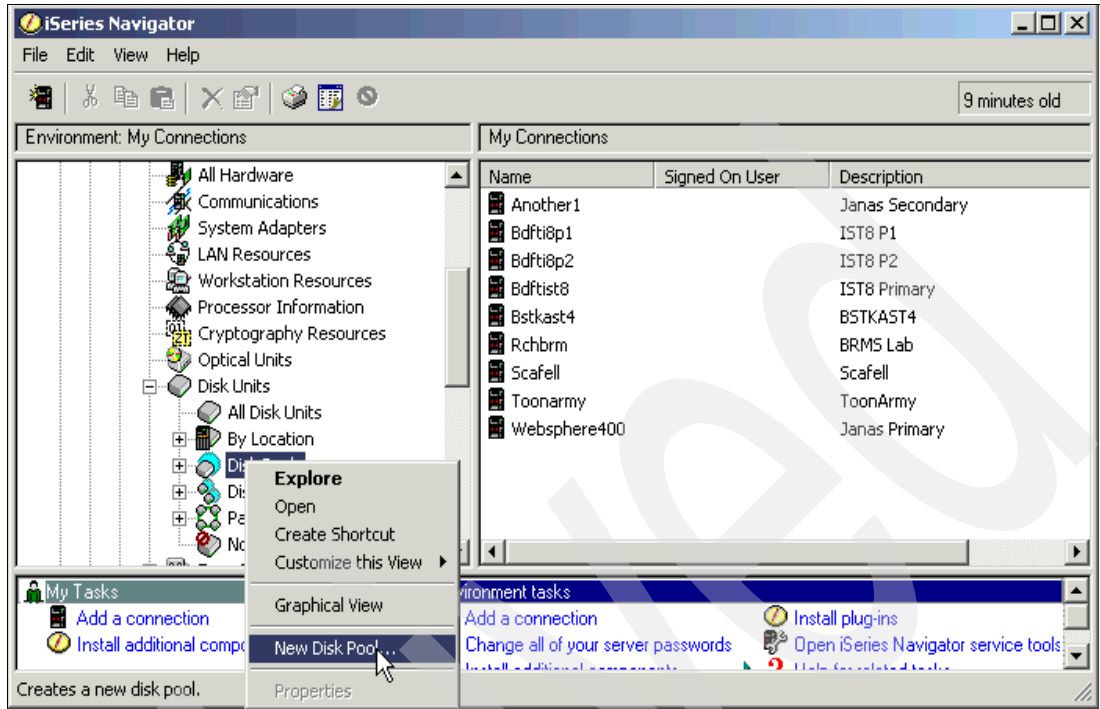

Figure 5-25 Creating a new disk pool
4. Under Disk Units, right-click **Disk Pools**, and select **New Disk Pool** as shown in Figure 5-25.